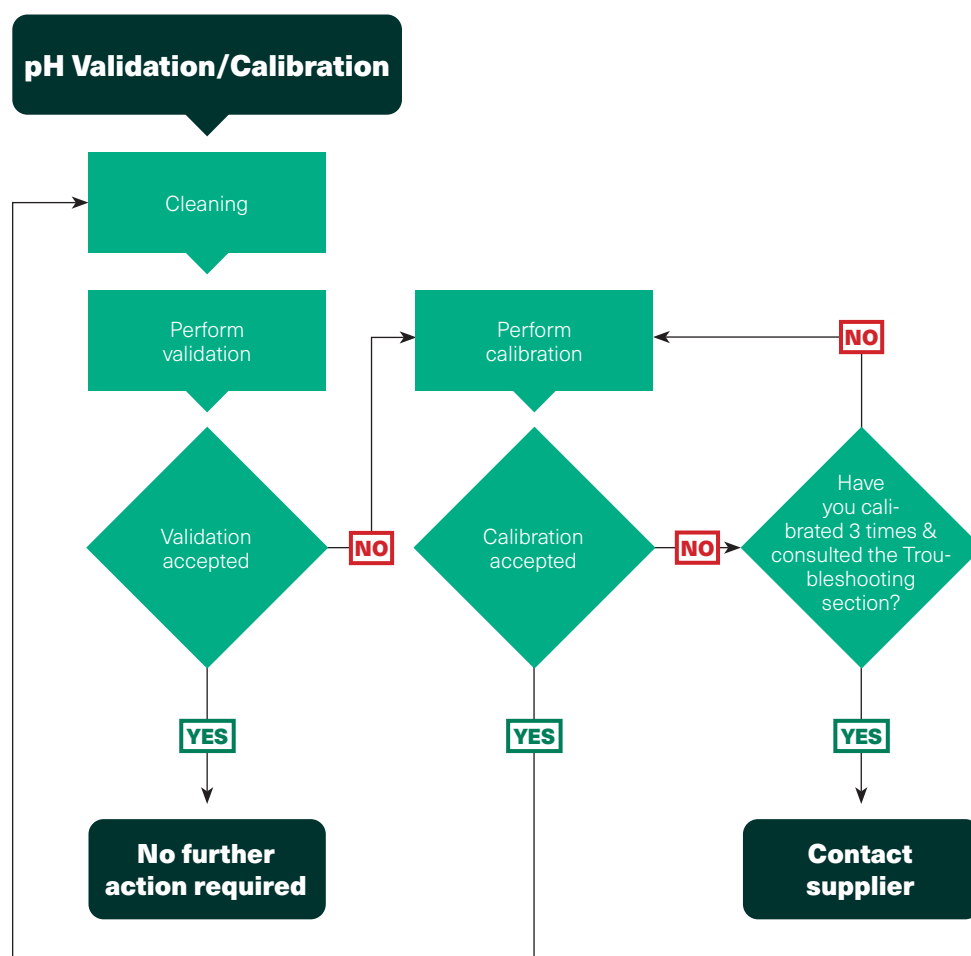

Figure 7.3: pH Validation/calibration procedure
9. Wait for the display to update the validation result. If the validation is successful, the screen will display a "Validation Passed" message and calibration will not be required. If the validation fails, the screen will display a "Validation Failed" message and calibration will be required. Refer to Figure 7.3.